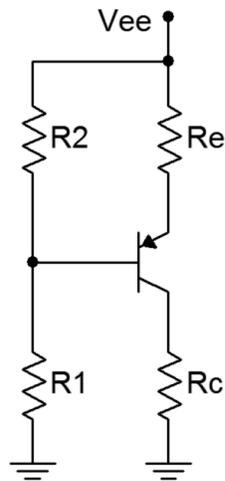

Figure 1
1. Consider the circuit of Figure 1 using  $V_{ee} = 10$  volts,  $R_1 = 10$  k $\Omega$ ,  $R_2 = 3.3$  k $\Omega$ ,  $R_e = 4.7$  k $\Omega$  and  $R_c = 5.6$  k $\Omega$ . Using the approximation of a lightly loaded “stiff” voltage divider, determine the theoretical base, emitter and collector voltages, and record them in Table 1 (Theory).
2. Build the circuit of Figure 1 using  $V_{ee} = 10$  volts,  $R_1 = 10$  k $\Omega$ ,  $R_2 = 3.3$  k $\Omega$ ,  $R_e = 4.7$  k $\Omega$  and  $R_c = 5.6$  k $\Omega$ . Measure the base, emitter and collector voltages and record them in the first row of Table 1 (Experimental).